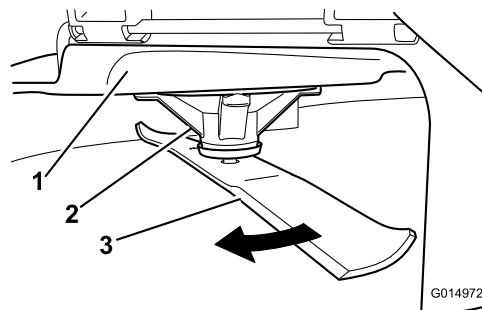

Figure 56
2. While wearing thickly padded gloves, or other adequate hand protection, slowly rotate the blade into a position that allows you to measure the distance between the cutting edge and the level surface the machine is on (Figure 56).